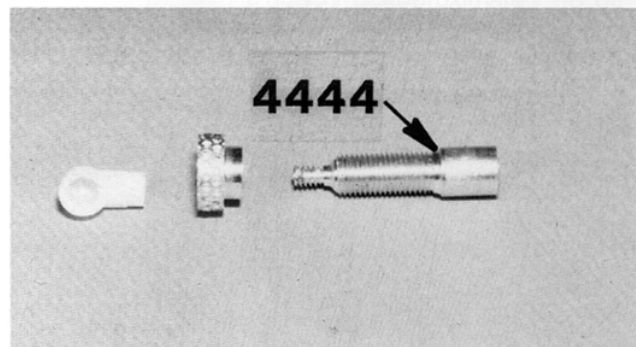

Fig. 39
□ **Figs. 39 & 40**—Now we'll assemble the shock. Screw the spring adjustment collar onto the shock body with the stepped end going on first, as shown. Screw the collar all the way on until it bottoms out, and then back it off two full turns. Now screw the plastic ball up all the way onto the threads.